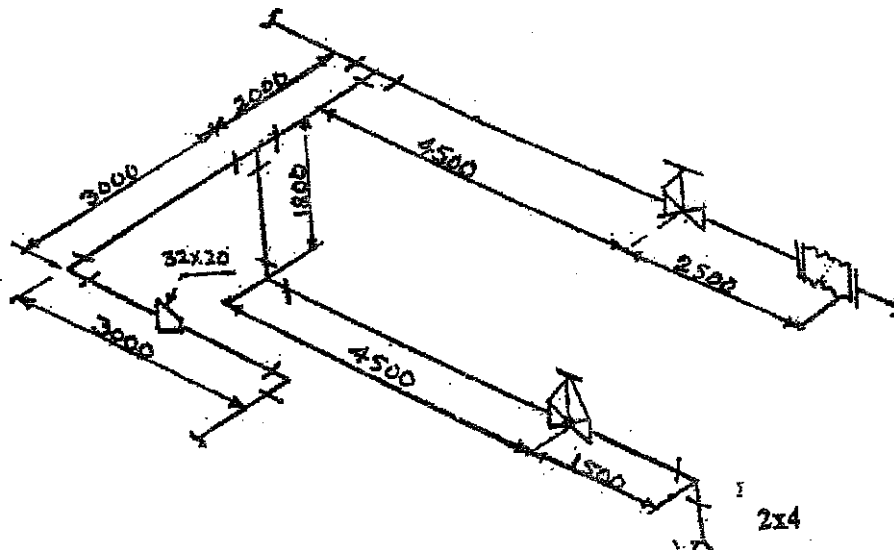

Fig. No. 2
- Draw single line developed view of the piping system shown in Fig. No. 2